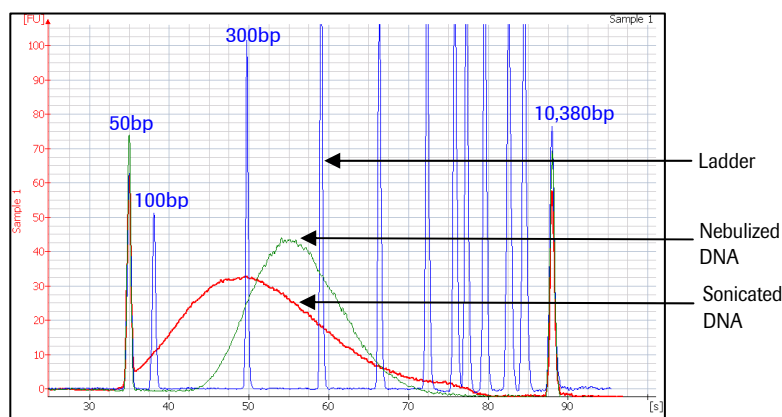

Figure 4: Example Agilent Bioanalyzer 2100 DNA Chip 7500 Run
5. Overlay the results with the ladder (Figure 4).
Note: The ideal molecular population in Figure 4 should be normally distributed with a mode between 300bp and 500bp; closer to 500bp is preferred. If there is variation of 20% or more in mode fragment size or some samples exhibit bimodal fragment distributions, consider repeating Step 2, Sonicate the Sample.